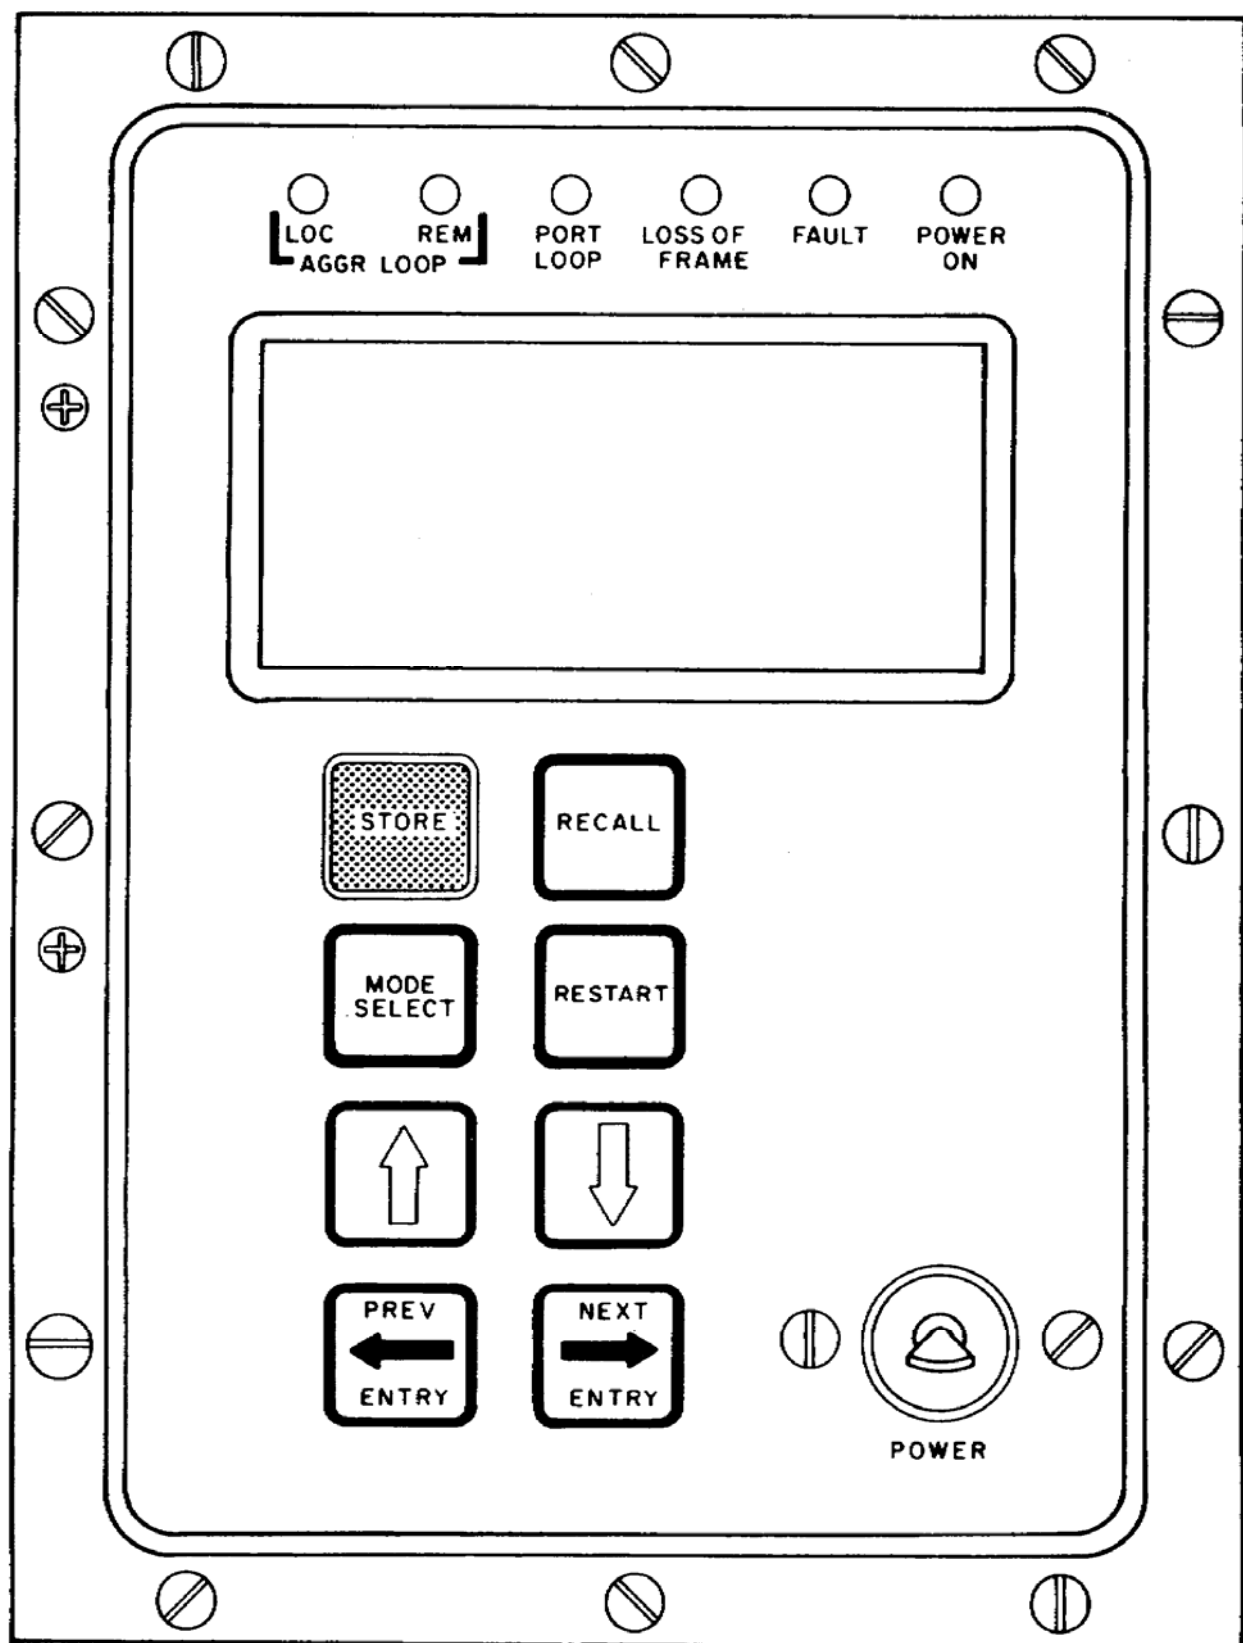

Figure 13. Front Panel.
3. All controls and indicators are located on the front panel. The front panel (see figure 13) contains an eight-button keypad, alphanumeric display, six indicator lights, and a POWER ON/OFF switch. The POWER ON light is green and is on when power is on. The LOOPBACK lights are amber and are normally off. The other front panel lights (ALARMS) are red and normally off. The following is a list of indicators and controls, and a description of their functions.